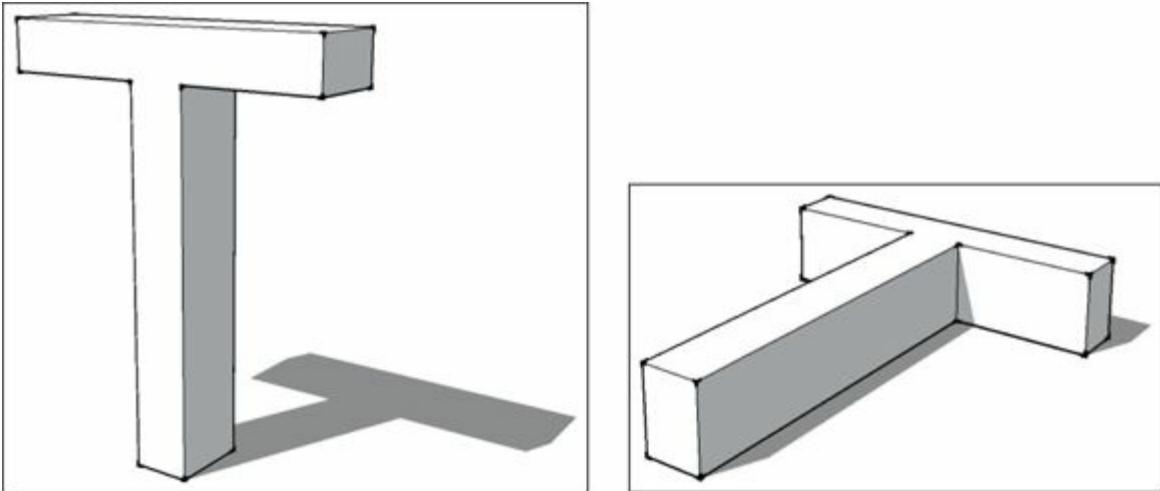

FIGURE 9-1: Re-orienting a part can make it print faster and leave less support material to clean up.
- » **Think about your parts orientation.** Orient the part so that it prints with the smallest number of overhangs. This may mean printing your object upside down or on its side. The capital T in Figure 9-1 could be printed standing upright, but laying it on its back allows it to print much faster — without support material.